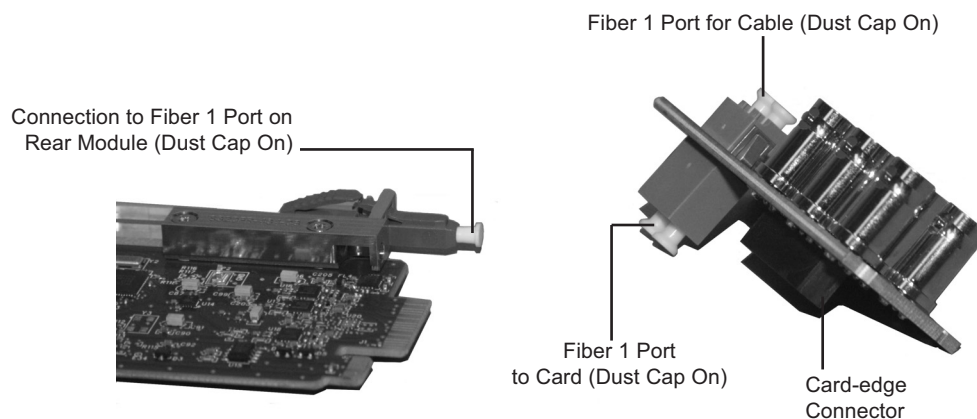
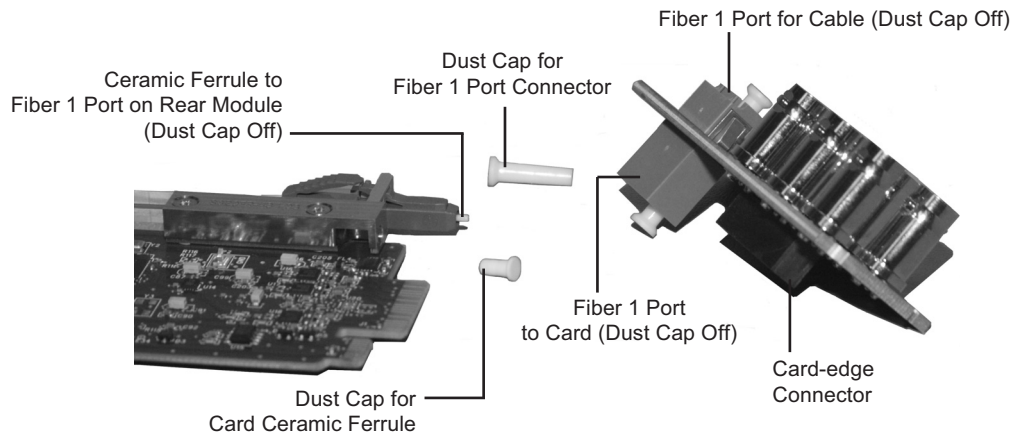

Figure 2.1 Card Connectors with Dust Caps Installed — 8320AR-044 Rear Module Shown
Figure 2.2 Card Connectors with Dust Caps Removed — 8320AR-044 Rear Module Shown
- Connectors must always be inserted into a device or have a dust cap on. Refer to **Figure 2.1** for dust cap locations.
3. Remove the two dust caps from the fiber ports on the Rear Module that face the interior of the frame. Refer to **Figure 2.2** for dust cap locations.
- Refer to **Figure 2.1** and **Figure 2.2** for dust cap locations.